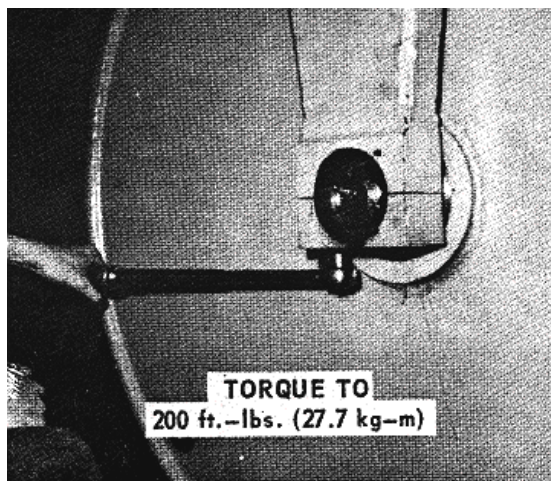

FIGURE 9-114.
e. Torque the cap screws to specification (see figure 9-114).